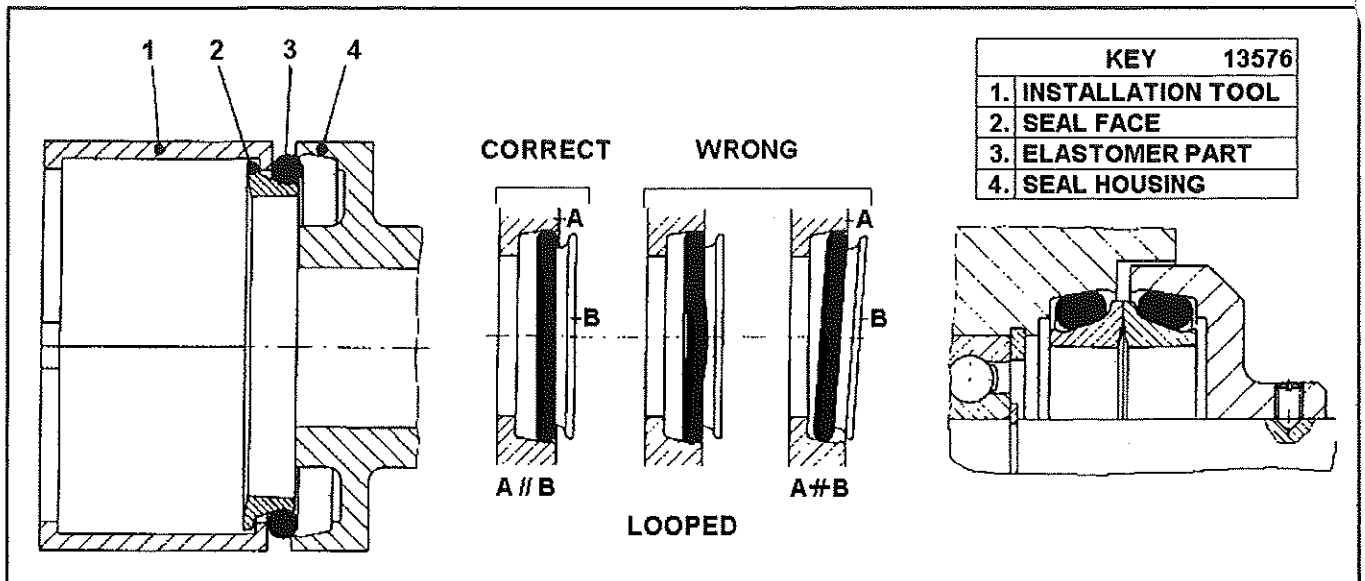

FIGURE 2 - FACE SEAL INSTALLATION
3. Install the seal adapter ring (2) onto the spindle.
4. Install the inner bearing cone (4) into the wheel.
5. Install the seal assembly as follows: (Figure 2 for step 5 only)
e. Press the seal ring like a push button into the housing. Take extra care to ensure that after installation the seal surface A (Figure 2) is parallel to B.
7. Slide the outer bearing (5) onto the spindle.
8. Lubricate the six drilled head capscrews (12) with wheel bearing lubricant.
9. Install the bearing retainer plate (6) (with no shims) using the six drilled head retainer capscrews (12).
**NOTE:** On trucks equipped with vented oil bath wheel bearings, the seal plate (27) and O-ring (28) should be removed from the bearing retainer plate (6) at this time.